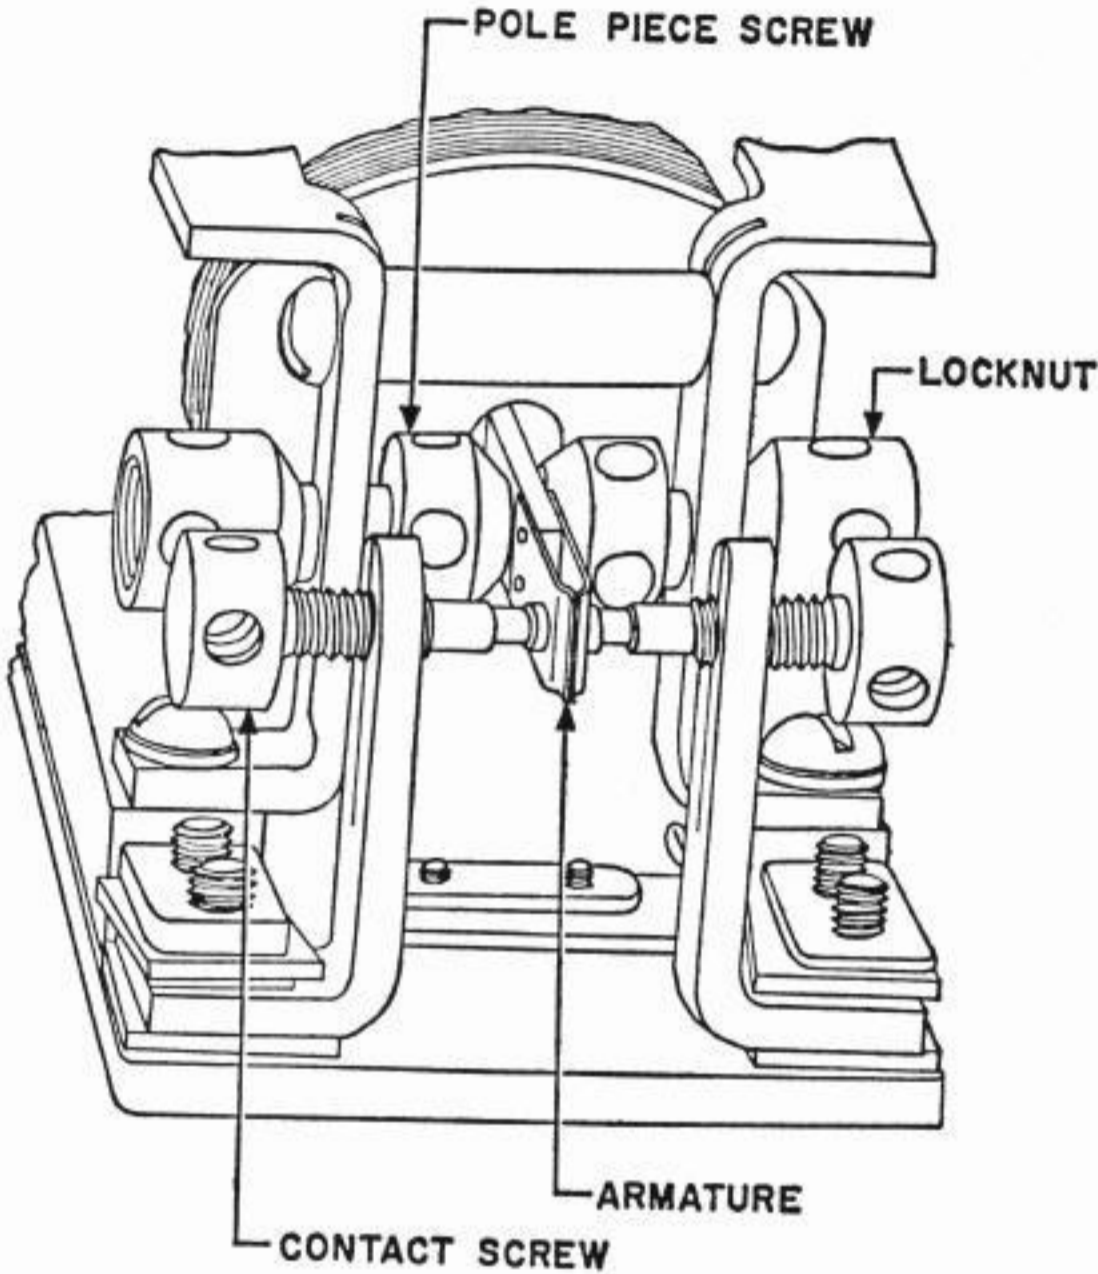

Fig. 2—215-type Relay
1.04 These relays are of the polar type, used with teletype-writers and teletypewriter subscriber sets as well as in certain other applications. When used as line relays they may be operated by either neutral or polar signals. For use in circuits operated by neutral or open-and-close signals, one winding is connected in the line circuit and the other winding has a locally supplied biasing current. For use in circuits operated by polar signals, the two windings are usually connected in series aiding in the line circuit. The arrangements of the relay windings and terminals are shown in Fig. 1A and 1B. Fig. 2, 3, and 4 illustrate the relays as viewed from the front with the covers removed.